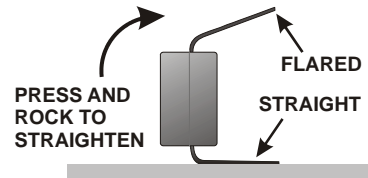

Figure 5. Straightening I.C. Pins.
- Place U1 on the board where shown by the outline near the center. If the pins are spread too wide to fit, place U1 on its side on a solid, flat surface and rock it gently to bend all the pins inward slightly as shown in Figure 5. Do the same on both sides until it fits into the solder pads on the board.